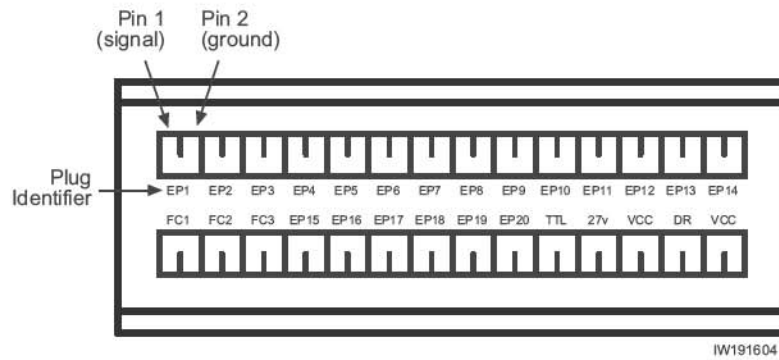

Figure 2-34: Customer-Defined External Alarm Connections
- 2 Using the details provided in Figure 2-34, connect the normally-open alarm inputs from the external equipment to the external alarm plug.